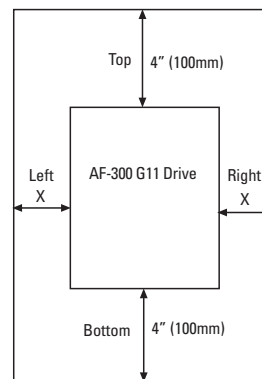

Fig. 2-2-1 30 HP or less: Gap X can be 0. (side-by-side installation) 40HP or more: Gap X >= 2.0" (50mm)
1. Securely fasten the product in an upright position on a solid structure with the tag AF-300G11 facing the front. Do not turn the product upside down or install in a horizontal position. Fig. 2-2-1
2. Since heat is generated during drive operation, the spaces shown in Fig. 2-2-1 are required to ensure sufficient cooling. Do not install the product beneath a device sensitive to heat as heat radiates upward.